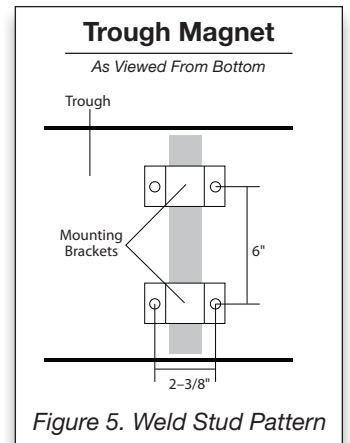

Figure 5. Weld Stud Pattern
- Trough magnets can be mounted to trough either by tack welding or using weld studs (see Figure 5 for weld stud pattern).